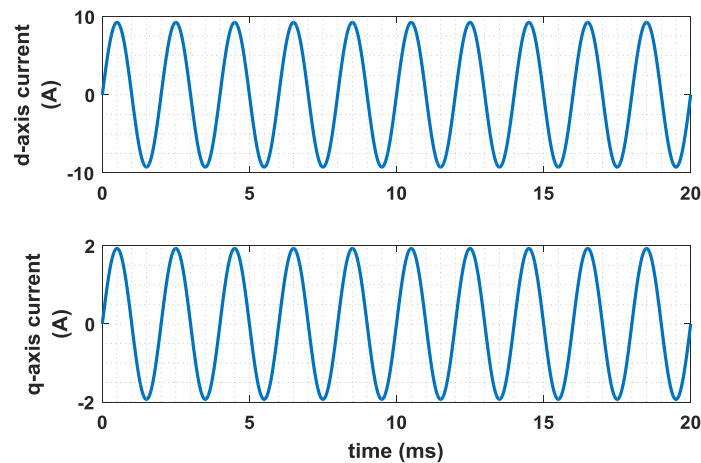

Figure 5
- a. With the help of a block diagram, describe a suitable algorithm for the detection of the rotor angular position, based on measurement of the stator currents. (6)
- b. The motor is operated at zero speed and zero torque demand, with an estimated rotor angle $\hat{\theta} = 0$. Figure 5 shows the measured currents \hat{i}_d, \hat{i}_q in the estimated synchronous reference frame.